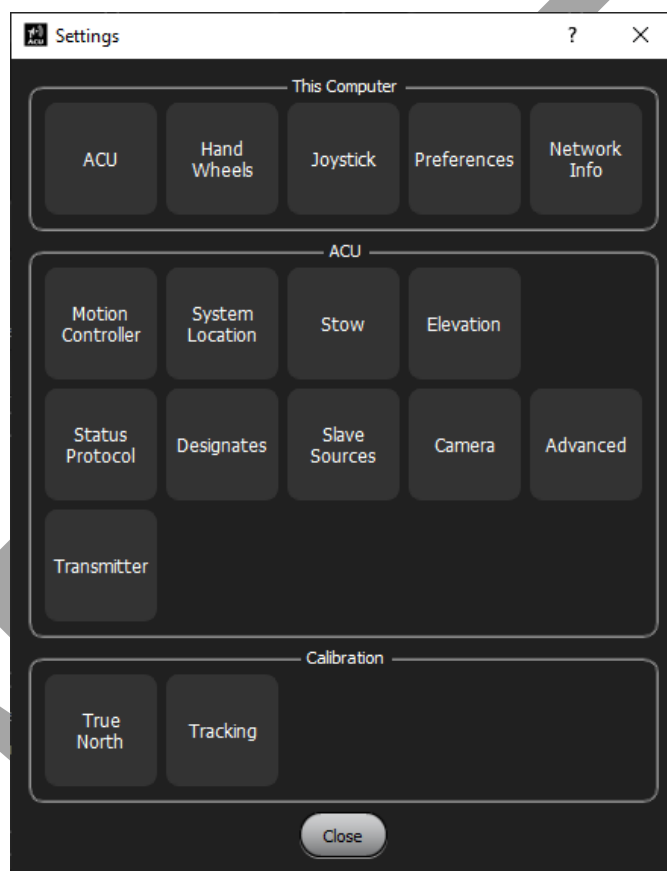
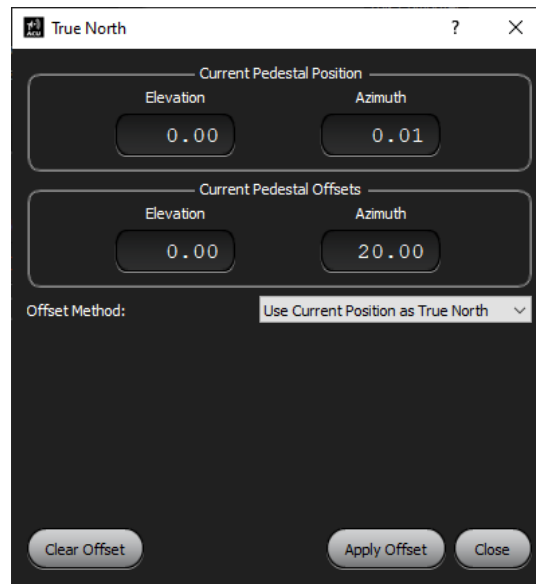

Figure 33: Settings Window
Figure 34: True North Window
1. Select the Settings – Calibration - True North button, as shown in Figure 33, to display the True North window, shown in Figure 34.